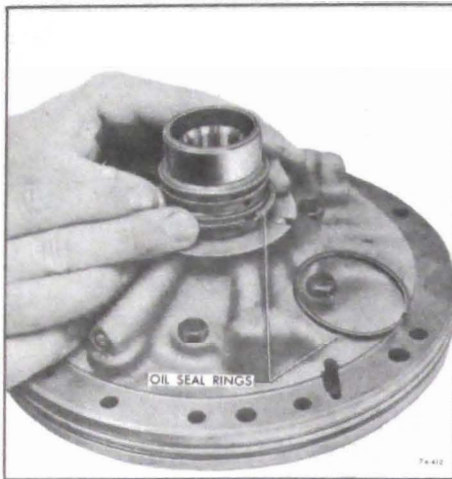

Figure 74-177
1. Remove the two (2) hook type oil sealing rings from pump hub. See Figure 74-177.